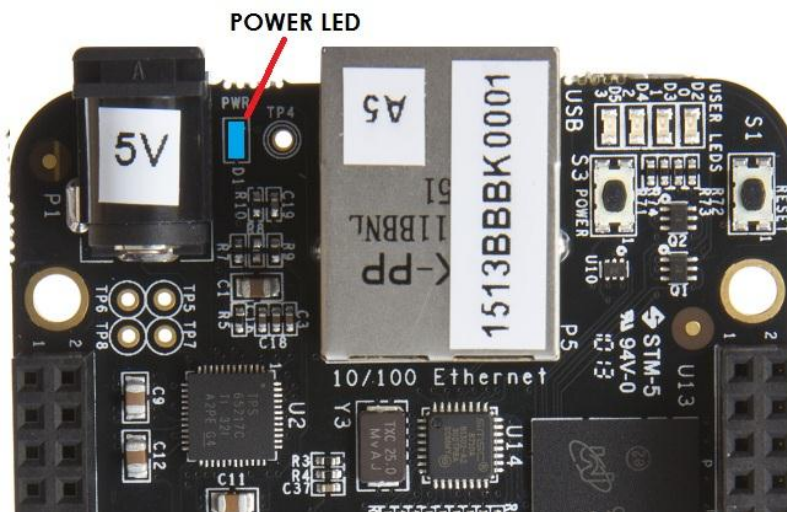

Figure 4. Board Power LED
1. Connect the small connector on the USB cable to the board as shown in **Figure 4**. The connector is on the bottom side of the board.
3. The board will power on and the power LED will be on as shown in **Figure 4** below.